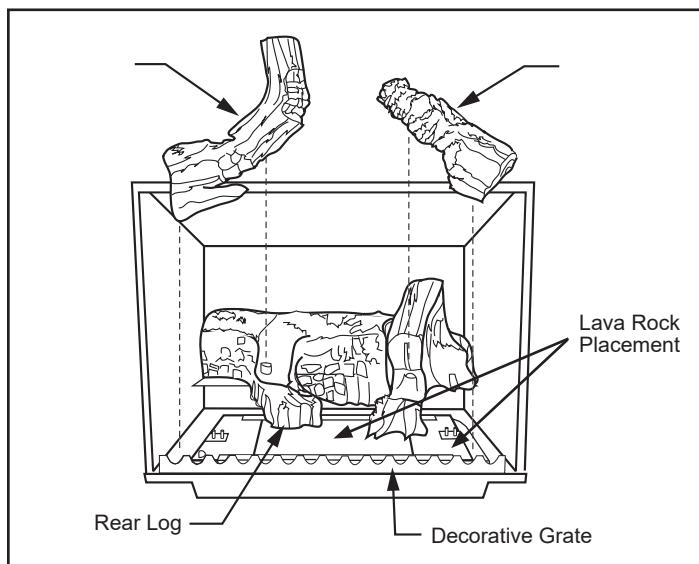

Figure 3.25 - Install the back, left and right logs.
2. Install the rear log by centering it to the rear of the firebox on the sheet metal shelf, Figure 3.25. The log should touch the back wall of the firebox when installed properly.
3. Place the right log by matching the hole on the underside of the right log with the pin located on top of the rear log, Figure 3.25. Set the front of the log on the burner and push toward the right side of the firebox, the front right corner of the log will touch the side wall of the firebox.
4. Place the left log by matching the hole on the underside of the left log with the pin located on top of the rear log, Figure 3.25. Set the front of the log on the burner and push toward the left side of the firebox, the front left corner of the log will touch the side wall of the firebox.
5. Lay the lava rocks in the open area of the burner in front of and between the decorative grate and the right and left logs. Use the lava rock to cover brackets on the burner, Figure 3.25.